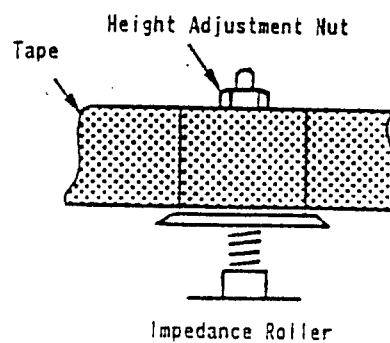

Fig. 2-4.
6. If any curling or creasing is noted, adjust tape guide roller and impedance roller first. In this case, adjust the impedance roller in both PLAY and REV modes so that tape runs as shown in Fig. 2-4.